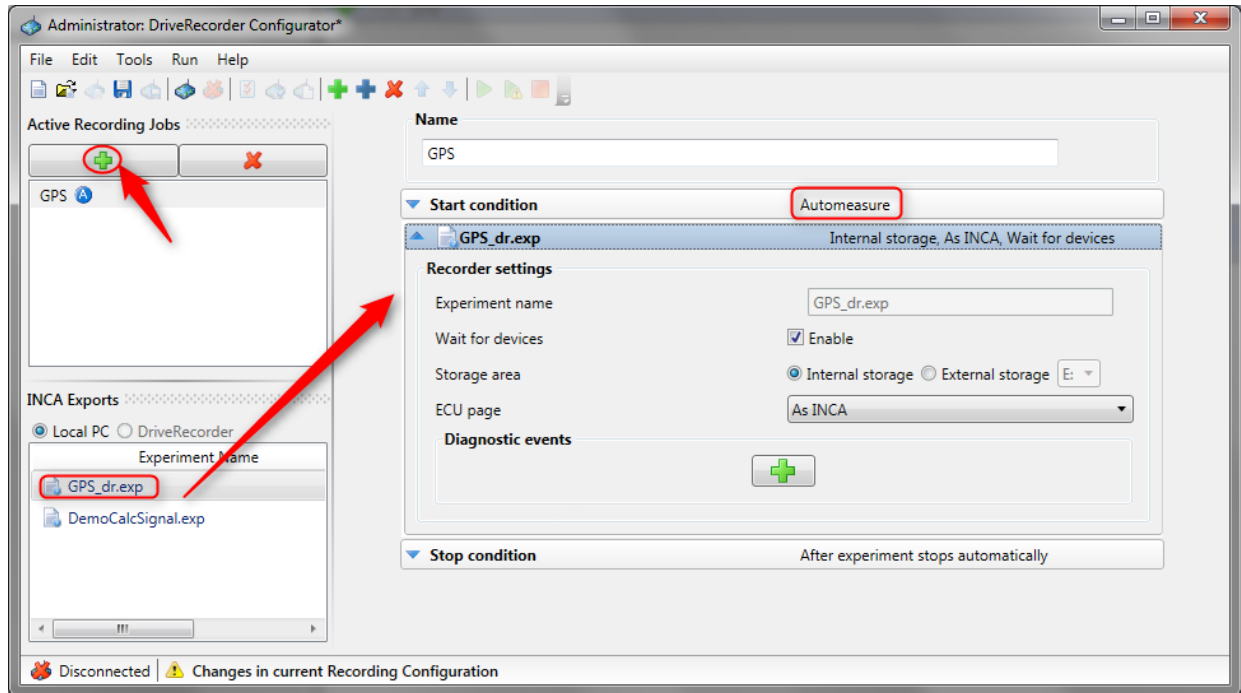

Fig.6
- set the *Start condition* as *Automeasure* (Fig.6)